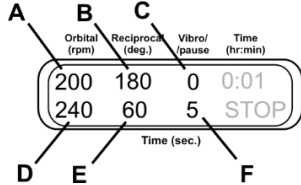
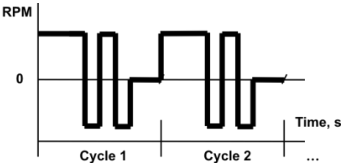

Figure 9.
Figure 10.
6.9.3. **Orbital + Reciprocal + Pause.** Set the speed (fig. 9/A, 20–250 rpm) and time (fig. 9/D, 1–250 s) of Orbital motion. Set the amplitude (fig. 9/B, 0–360°) and time (fig. 9/E, 1–250 s) for Reciprocal motion. It is performed at the same speed as the Orbital motion. Set the amplitude (fig. 9/C) of Vibro motion to zero. Set the time for Vibro motion (fig. 9/F, 1–5 s), this is the time of pause duration (fig. 10).